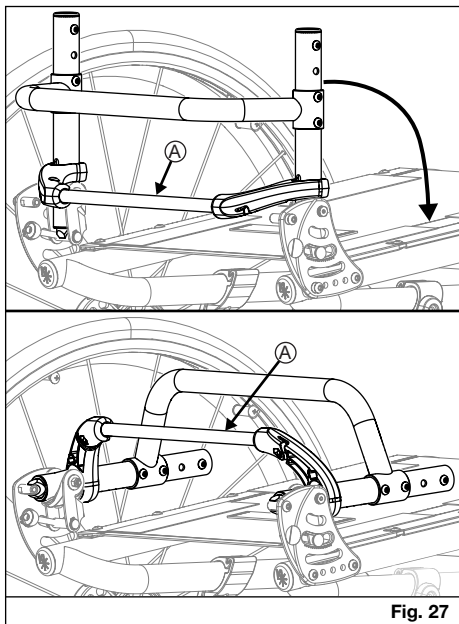

Fig. 27
1. Lift the back release bar (Fig. 27:A), located behind the back frame, to release the latch and fold downwards
towards the seat frame (Fig. 27). To latch back into place, pull the back release bar upward (toward the rigidizer bar) and the back will release and can be pushed into the upright position. The backrest will automatically latch onto the back plate.
WARNING: Do not lift the wheelchair by the release bar (Fig. 27:A, 28:A). Lifting the wheelchair by the release bar may cause parts to fail which could cause a fall resulting in serious injury or death.